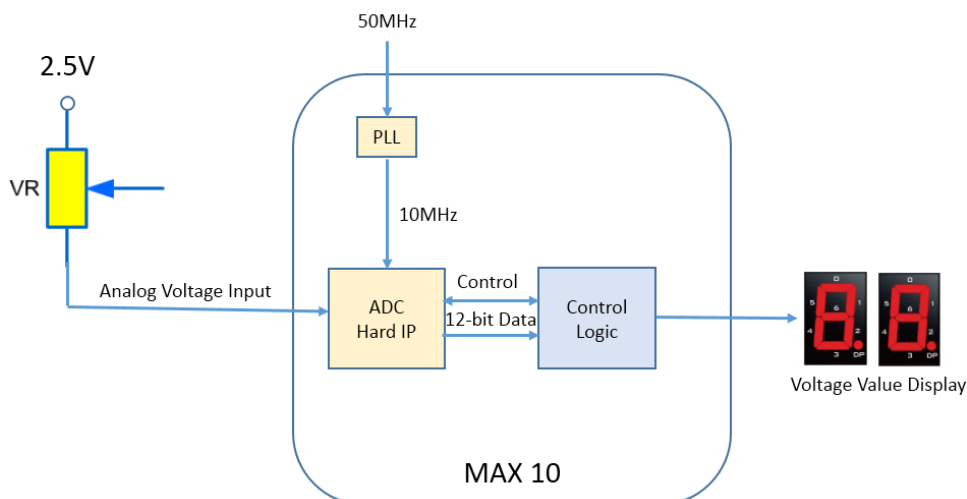

Figure 5-6 Block diagram of ADC Potentiometer
The MAX10 NEEK has a Variable Resistor (VR) onboard, which acts as a potentiometer in this demonstration. **Figure 5-6** shows the block diagram of Power Monitor demonstration. The ADC reference clock running at 10MHz is generated by PLL. It feeds into the ADC Hard IP in MAX10 device. The analog voltage input comes from the VR controls the voltage level. The control logic within the ADC Hard IP reads the digitized voltage data. It then converts the data and displays the level value on two 7-segments. Since none of the dot points of two 7-segments is connected to the MAX 10, so HEX1 and HEX0 shows the decimal point and the first digit after the decimal point respectively.